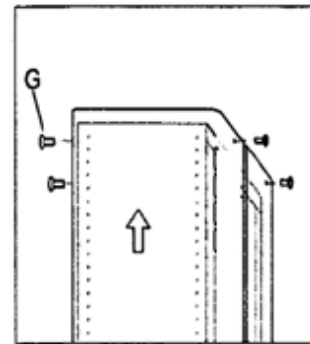

Figure 10
- Take the upper part chimney piece and fix it with 4 unit screws G. (Figure 10).